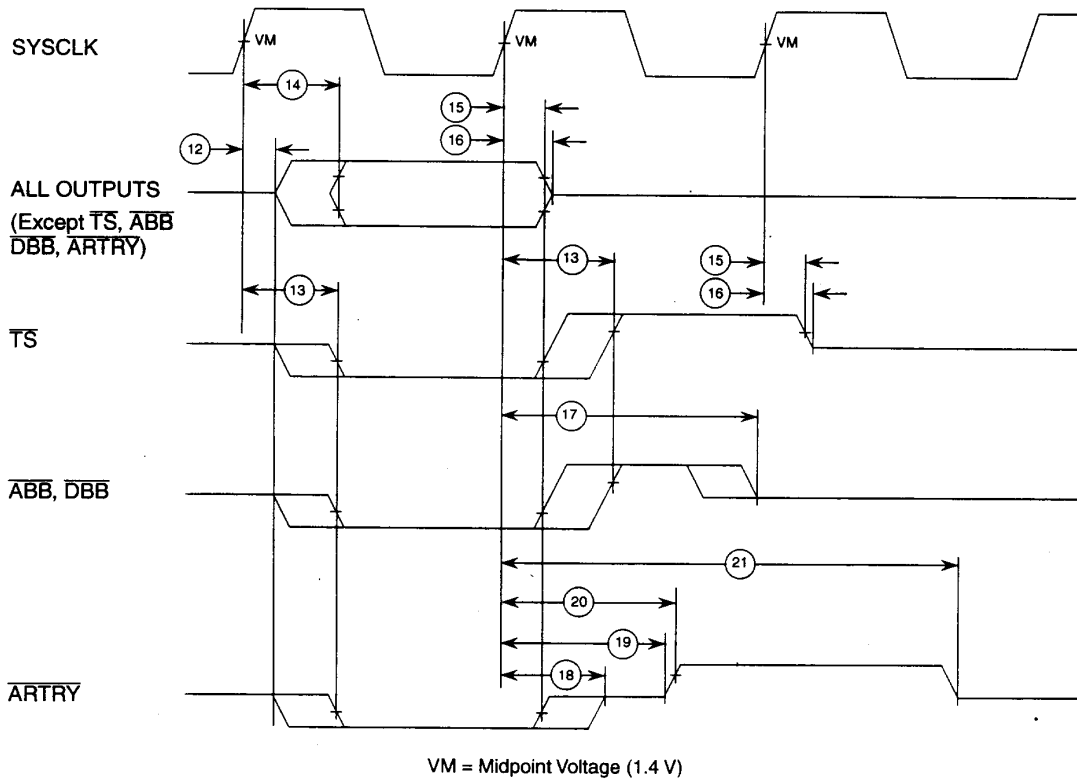

Figure 7 : Output timing diagram
Table 11 provides the output AC timing specifications for the 603r (shown in Figure 7).
**Notes:** 1. All output specifications are measured from the 1.4 V of the rising edge of SYSCLK to the TTL level (0.8 V or 2.0 V) of the signal in question. Both input and output timings are measured at the pin. See Figure 7.